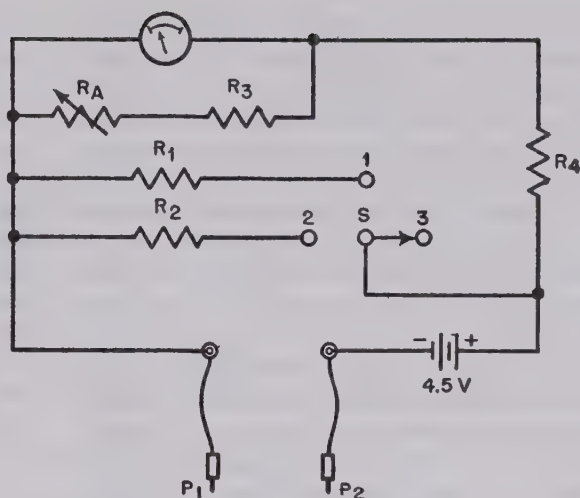

Figure 33. Series ohmmeter circuit using meter shunts.
a. A circuit providing one high-resistance and two low-resistance ranges is shown in figure 33. This is a basic series ohmmeter because the unknown resistor, R_x , is placed in series with the circuit. However, shunts are placed across the meter to read ohms on the lower ranges. It is called a multirange ohmmeter since it will read more than one range.
f. To measure higher values of resistance than can be accommodated on the high range of the ohmmeter circuit in figure 33, a higher value of voltage must be used. Since the current flowing in a circuit is equal to the ratio of the voltage to the resistance (I equals E/R), it is evident that, as the resistance in the circuit is increased, a point is reached where the current is insufficient to cause a deflection of the meter pointer. A higher voltage, therefore, must be used to force sufficient current through the higher resistance. The increased resistance range is directly proportional to the increase in ohmmeter voltage. For example, if the voltage of the battery in the circuit is increased 5 times to 22.5 volts, the resistance range is increased a like amount, and a multiplying factor of 5 must be applied to the existing high-resistance scale to determine the higher values of unknown resistance. An ohmmeter battery of 45 volts increases the high-resistance range 10 times, and so on. The current-limiting resistor, R_4 , in the series circuit must be increased in direct proportion to the increase in voltage, becoming 5 times as great for a 22.5-volt battery and 10 times as great for a 45-volt battery. This additional resistance is required to limit the current flow to the required 1 ma for full-scale deflection.